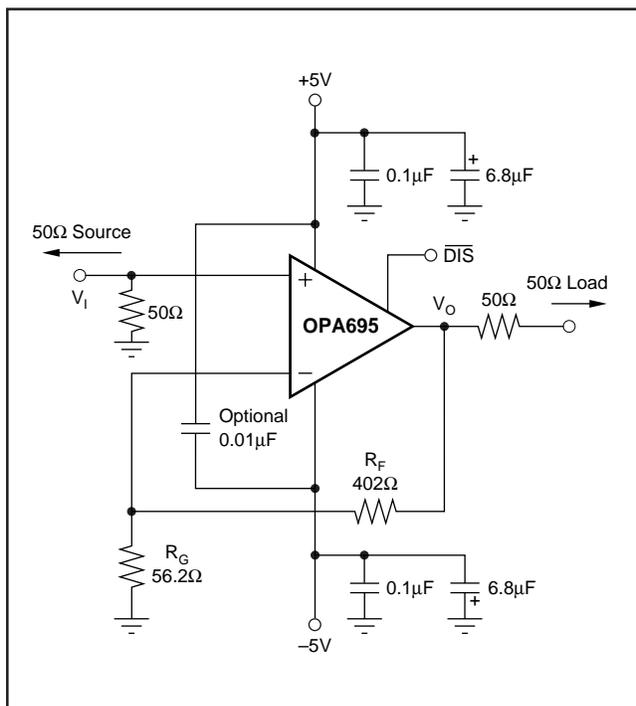
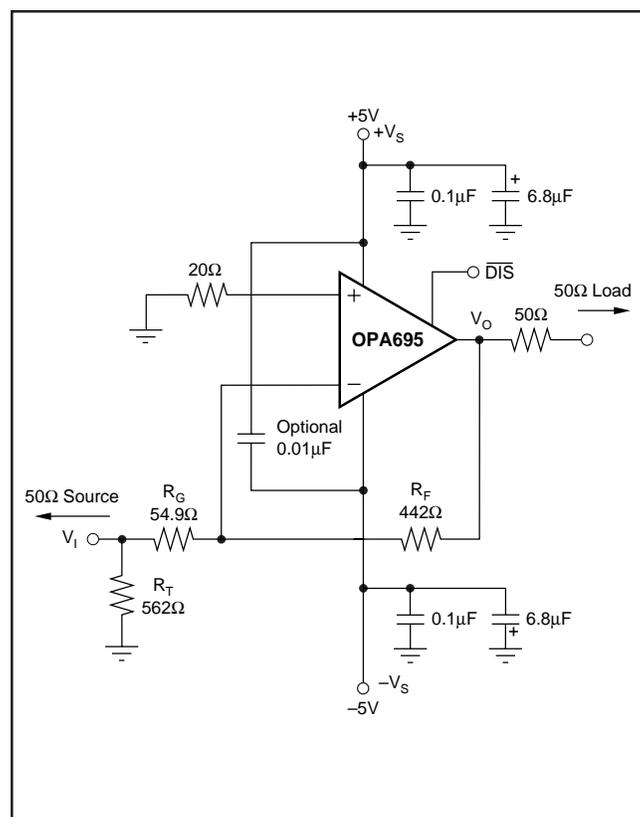
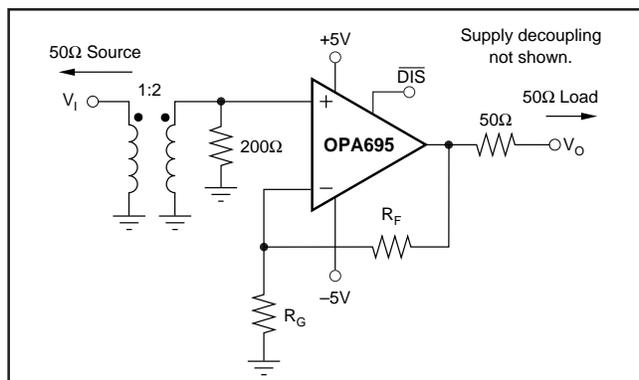

FIGURE 1. DC-Coupled,  $G = +8\text{V}/\text{V}$ , Bipolar Supply Specifications and Test Circuit.
FIGURE 2. DC-Coupled,  $G = -8\text{V}/\text{V}$ , Bipolar Supply Specifications and Test Circuit.
FIGURE 5. IF Amplifier with Improved Noise Figure.
Figure 1 shows the DC-coupled, gain of  $+8\text{V}/\text{V}$ , dual power supply circuit used as the basis of the  $\pm 5\text{V}$  Specifications and Typical Characteristic curves. For test purposes, the input impedance is set to  $50\Omega$  with a resistor to ground and the output impedance is set to  $50\Omega$  with a series output resistor. Voltage swings reported in the specifications are taken directly at the input and output pins while load powers (dBm) are defined at a matched  $50\Omega$  load. For the circuit of Figure 1, the total effective load will be  $100\Omega \parallel 458\Omega = 82\Omega$ . The disable control line ( $\overline{\text{DIS}}$ ) is typically left open to get normal amplifier operation. The disable line must be asserted low to shut off the OPA695. One optional component is included in Figure 1. In addition to the usual power supply decoupling capacitors to ground, a  $0.01\mu\text{F}$  capacitor is included between
Figure 2 shows the DC-coupled, gain of  $-8\text{V}/\text{V}$ , dual power supply circuit used as the basis of the Inverting Typical Characteristic curves. Inverting operation offers several performance benefits. Since there is no common mode signal across the input stage, the slew rate for inverting operation is higher and the distortion performance is slightly improved. An additional input resistor,  $R_T$ , is included in Figure 2 to set the input impedance equal to  $50\Omega$ . The parallel combination of  $R_T$  and  $R_G$  set the input impedance. Both the non-inverting and inverting applications of Figures 1 and 2 will benefit from optimizing the feedback resistor ( $R_F$ ) value for bandwidth (see the discussion in *Setting Resistor Values to Optimize Bandwidth*). The typical design sequence is to select the  $R_F$  value for best bandwidth, set  $R_G$  for the gain, then set  $R_T$  for the desired input impedance. As the gain increases for the inverting configuration, a point will be reached where  $R_G$  will equal  $50\Omega$ , where  $R_T$  is removed and the input match is set by  $R_G$  only. With  $R_G$  fixed to achieve an input match to  $50\Omega$ ,  $R_F$  is simply increased, to increase gain. This will, however, quickly reduce the achievable bandwidth, as shown by the inverting gain of  $-16$  frequency response in the Typical Characteristic curves. For gains  $> 10\text{V}/\text{V}$  (14dB at the matched load), noninverting operation is recommended to maintain broader bandwidth.
The ultra-high, full-power bandwidth and 3rd-order intercept of the OPA695 may be used to good advantage in IF amplifier applications. Additional benefits to using a wideband op amp such as the OPA695 include extremely good (and independent) I/O impedance matching as well as very high reverse isolation. A designer more accustomed to using fixed-gain RF amplifiers will get almost perfect gain accuracy, much higher I/O return loss, and 3rd-order intercept points exceeding 30dBm (up to 110MHz) using only a 13mA supply current for the OPA695. Using the considerable design freedom achieved by adjusting the external resistors, the OPA695 can replace a wide range of fixed-gain RF amplifiers with a single part. To understand (in RF amplifier terms) how to take advantage of this, consider first the 4-S parameters (this will be done using the example circuits of Figures 1 and 2 on  $\pm 5V$  supplies, but similar results can be obtained on a single +5V to +12V supply).
Input return loss is a measure of how nearly (over frequency) the input impedance matches the source impedance. This is relatively independent of gain setting for both the noninverting and inverting configurations. The Typical Characteristic curves show the magnitude of  $S_{11}$  for the circuits of Figures 1 and 2 through 1GHz (noninverting gain of +8 and inverting gain of -8 operation, respectively). Noninverting operation does offer much better matching to higher frequencies, with the only deviation due to the parasitic input capacitance of the input pin. The noninverting input match is simply set by the resistor to ground on the noninverting input, since the amplifier itself shows a very high input impedance. Inverting operation is also very good, but rises more quickly due to loop gain roll-off effects appearing at the inverting node. The inverting mode input match is set by the parallel combination of  $R_G$  and  $R_T$  in Figure 2, since the inverting amplifier node may be considered a virtual ground. A good, fixed-gain, RF amplifier would have an input, Voltage Standing Wave Ratio (VSWR) < 1.2:1. This corresponds to an  $S_{11}$  of -21dB. The OPA695 exceeds this performance through 100MHz for the inverting mode of operation, and through 400MHz for the noninverting mode.
Signal gains are most often referred to as V/V in op amp data sheets. This is the voltage gain from input to output and is set by external resistor ratios. Since the output impedance is set by a physical series resistor, the voltage gain to the matched load is cut in 1/2 by this resistor divider. The log gain to the matched load for the noninverting circuit of Figure 1 is: (1)
The log gain to the matched load for the inverting circuit of Figure 2 is: (2)
The specific resistor values used in Figures 1 and 2 give both a maximally flat bandwidth and a 12dB gain to the matched load. The design tables at the end of this section summarize the required resistor values over a range of desired gains for the circuits of Figures 1 and 2.
curves. The inverting configuration holds almost constant bandwidth (with correctly selected external resistor values) until  $R_G$  reduces to equal  $50\Omega$ , and remains at that value to satisfy the input impedance matching requirement, with further increases in gain achieved by increasing  $R_F$  in Figure 2. The bandwidth then decreases rapidly as shown by the gain of  $-16V/V$  plot in the Typical Characteristic curves.
Reverse isolation is a measure of how much power injected into the output pin makes it back to the source. This is rarely specified for an op amp because it is so good. Op amps are very nearly uni-directional signal devices. Below 300MHz, the noninverting configuration of Figure 1 gives much better isolation than the inverting of Figure 2. Both are well below 40dB isolation through 350MHz.
Op amp noise figure equations include at least six terms (see the Noise Performance section), due to the external resistors. As a point of reference, the circuit of Figure 1 has an input noise figure of 14dB while the inverting configuration of Figure 2 has an input noise figure of 11dB. At higher gains, it is typical for the inverting noise figure to be slightly better than for an equivalent gain, noninverting configuration. One easy way to improve the noise figure for the noninverting configuration of the OPA695 is to include a step-up, 1:2 turns ratio transformer at the input. This configuration is shown in Figure 5.
TABLE I. Noninverting Wideband Op Amp (Figure 1).
TABLE II. Noninverting with a 1:2 Input Step-Up Transformer (Figure 5).